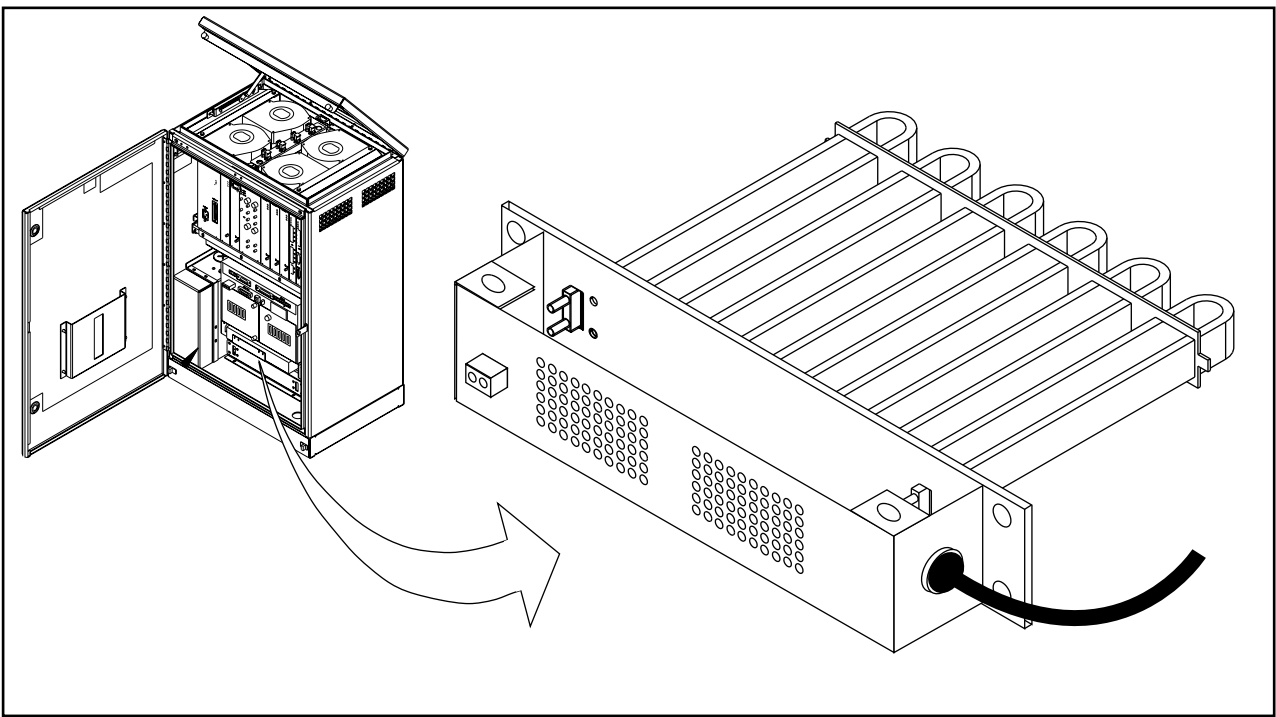

Figure 5-21. Subrack Heater
4. Locate the Main Heater Assembly. See Figure 5-21 on page 5-43.